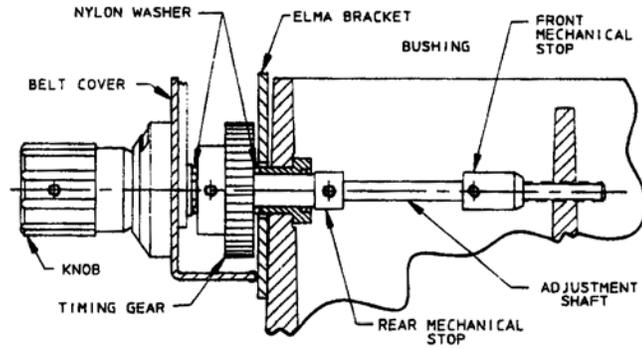

FIGURE 7
Preparing Gearbox for ELMA Mounting (Figures 7 & 8)
3. Slide rear mechanical stop onto adjustment shaft. See Fig. 7 Place 2 #8-32 screws 90 degrees apart prior to assembly